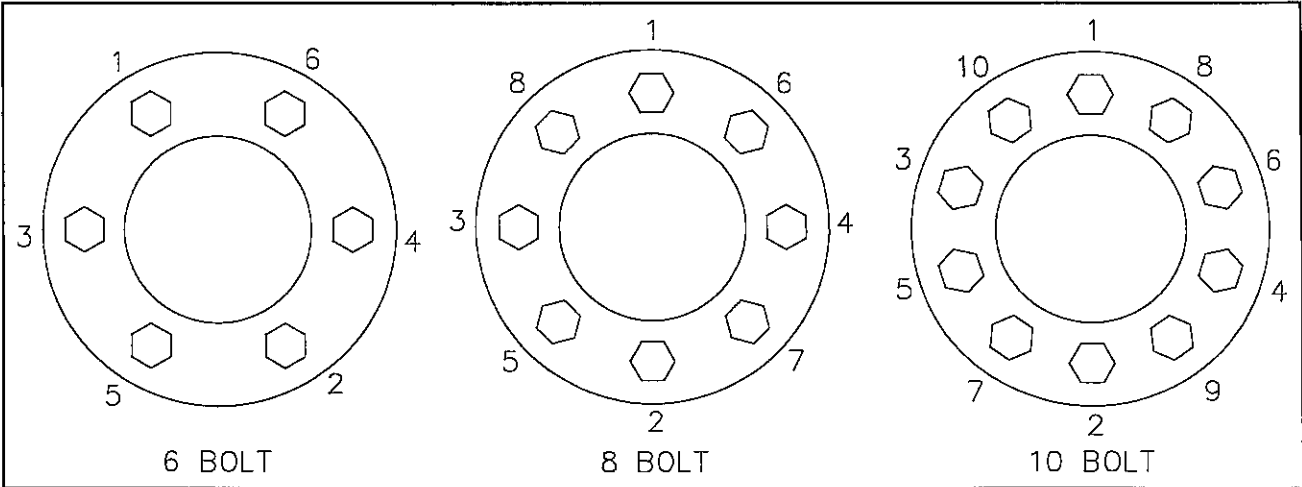

Figure 4-19 Stud Tightening Sequence
a. Make sure that all mounting surfaces are clean and free of rust, dirt or paint. A wire brush may be used to clean these surfaces (see Figure 4-19).